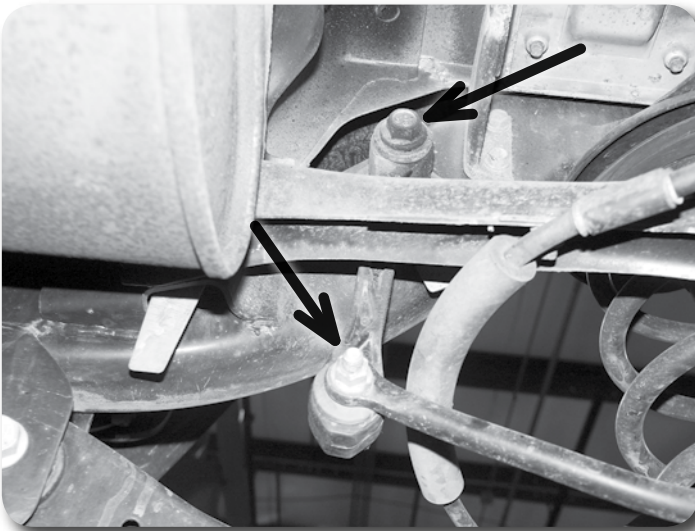

Figure 10
5. Disconnect the sway bar links from the sway bar and frame(Figure 10). Save hardware.